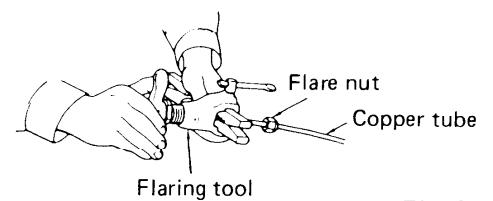

Fig. 25
- d) Make a flare at the end of copper tube with a flaring tool\* Fig. 25 (\*Use "RIGID" or equivalent.)